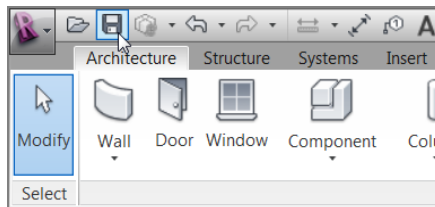

FIGURE 1.48: The traditional save icon brings up the Save As dialog if the file has never been saved.
1. Click the save icon (see Figure 1.48).